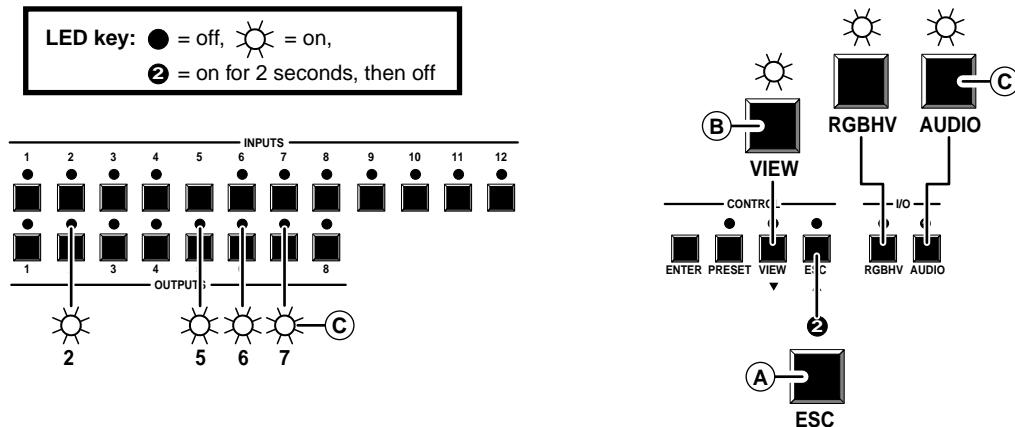
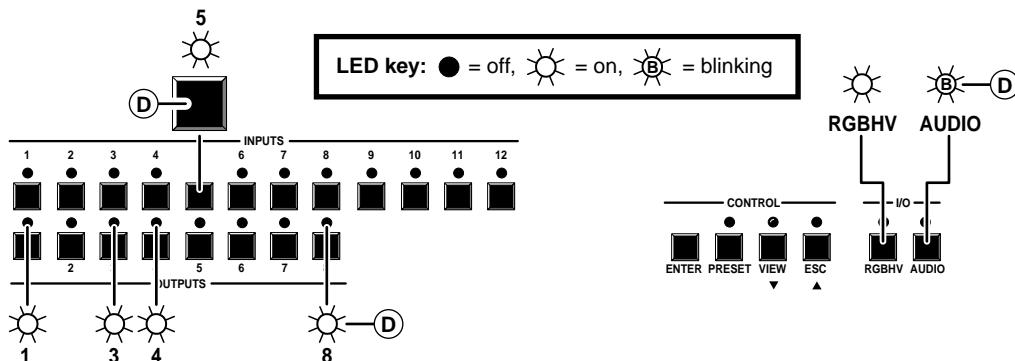
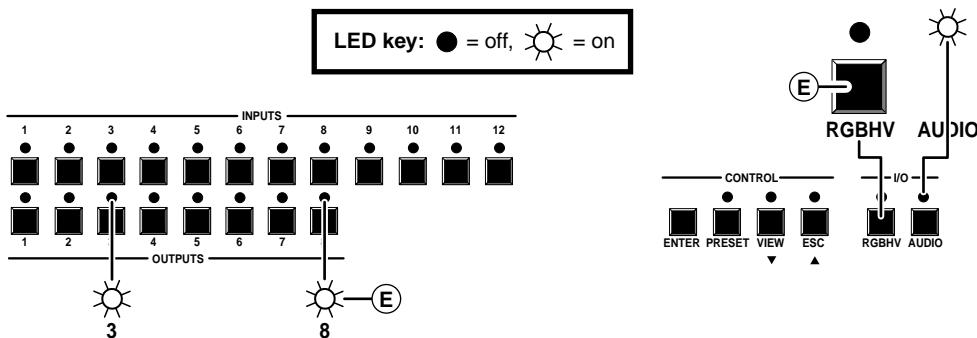
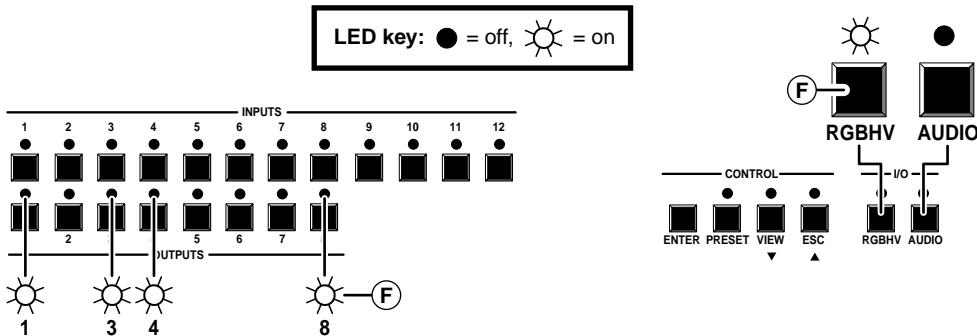

Figure 27 — Example 4: Viewing the current configuration, no input selected
Figure 28 — Example 4d: Viewing the current configuration, video and audio
Figure 29 — Example 4e: Viewing the current configuration, audio-only
Figure 30 — Example 4f: Viewing the current configuration, video-only
See figure 27, figure 28, figure 29, and figure 30 and the following steps for an example of viewing the video and audio, audio-only, and video-only ties in the current configuration.
- (A) Press and release the Esc button. The Esc LED turns on for approximately 2 seconds and turns off.
- (B) Press and release the View button to enter view-only mode. The View LED lights. With no input LED selected, all output LEDs that have no established ties light.
- (C) Press and release the input 5 button (figure 28). The input 5 LED lights. If ties are established for input 5, all output LEDs toggle; outputs with no ties turn off and the LEDs associated with all outputs tied to input 5 (audio, video, or audio and video ties) light. If no ties are established for input 5, all output LEDs turn off.
- E** Press and release the RGBHV button to toggle the Video LED off (figure 29). If audio is broken away, the Audio LED stops blinking and lights steadily.
- F** Press and release the RGBHV and Audio buttons to toggle the Video LED on and the Audio LED off (figure 30).